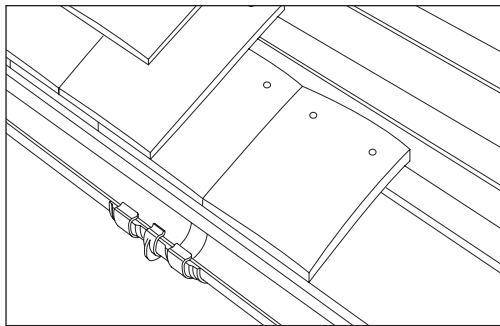

Fig 41 – Ensure sufficient overhang into gutter
- If gutter is not fixed, an overhang of 50mm should be allowed (Fig 41).